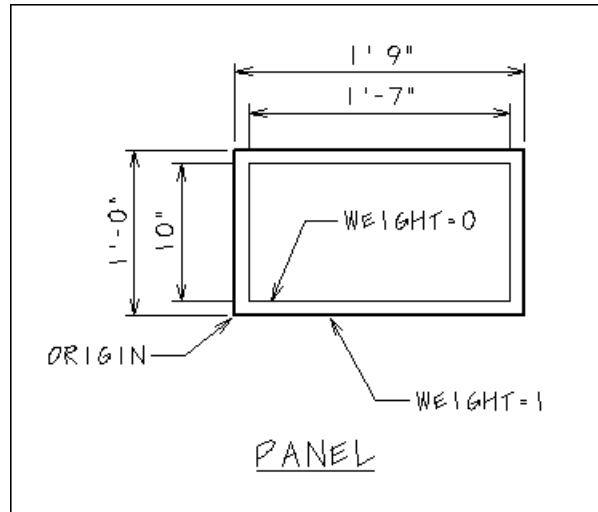

Figure P12-2 Garage door panel cell construction
STEP 4: Use Figure P12-2 as a guide to draw the two rectangles making up the garage door panel. Do not draw any of the dimensions or text.